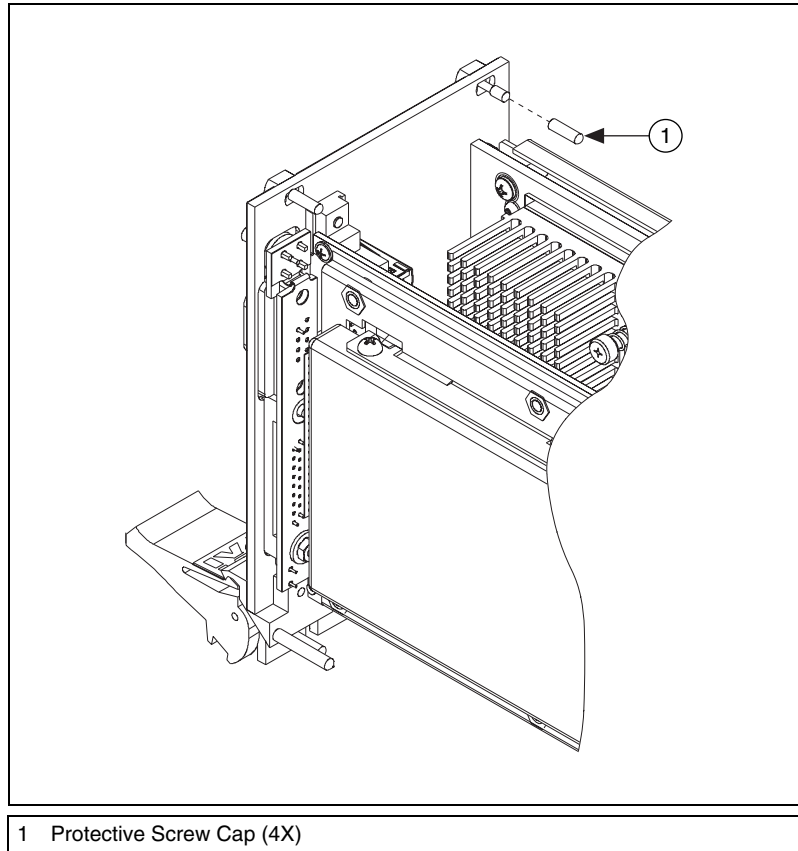

Figure 2-1. Removing Protective Screw Caps
4. Remove the protective plastic covers from the four bracket-retaining screws as shown in Figure 2-1.
3. Unscrew the bracket-retaining screws in the front panel. Refer to Figure 2-1 for the location of these screws.